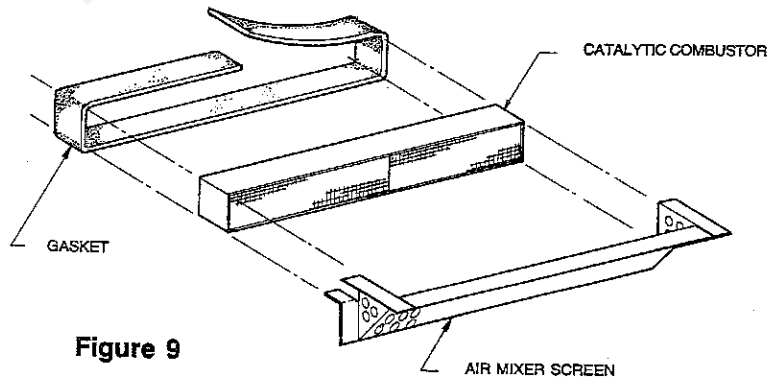

Figure 9
3. To replace catalytic combustor, wrap gasket material around combustor as shown, and slide assembly into place in combustor housing. Replace air mixer screen and bend tabs down into place. See Fig. 9.